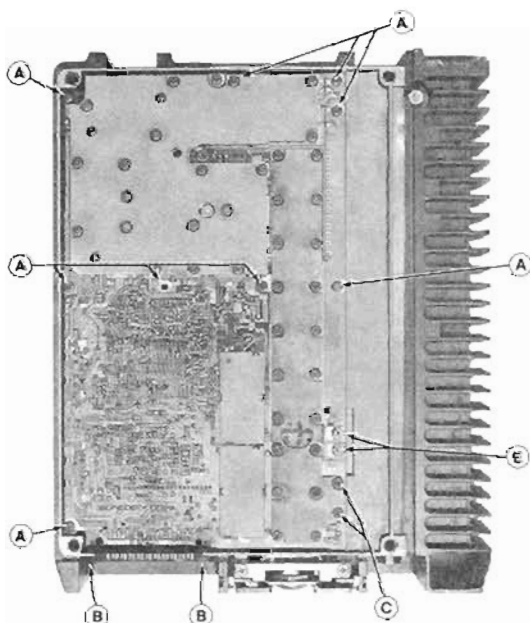

Figure 1 - Disassembly Procedure Bottom View
2. Remove the nine retaining screws (Figure 1) securing the circuit board to the main frame.